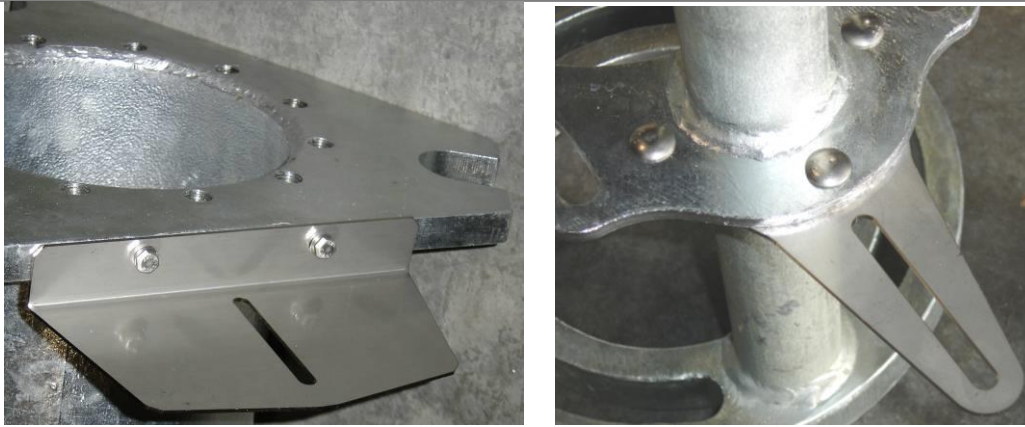

Figure 4.2.1 : Top Infill Support (left), Lower Infill Support (right)
- Fix the top infill support bracket to the top flange using two M6x20 screws with spring and flat washers. (see figure 4.2.1)